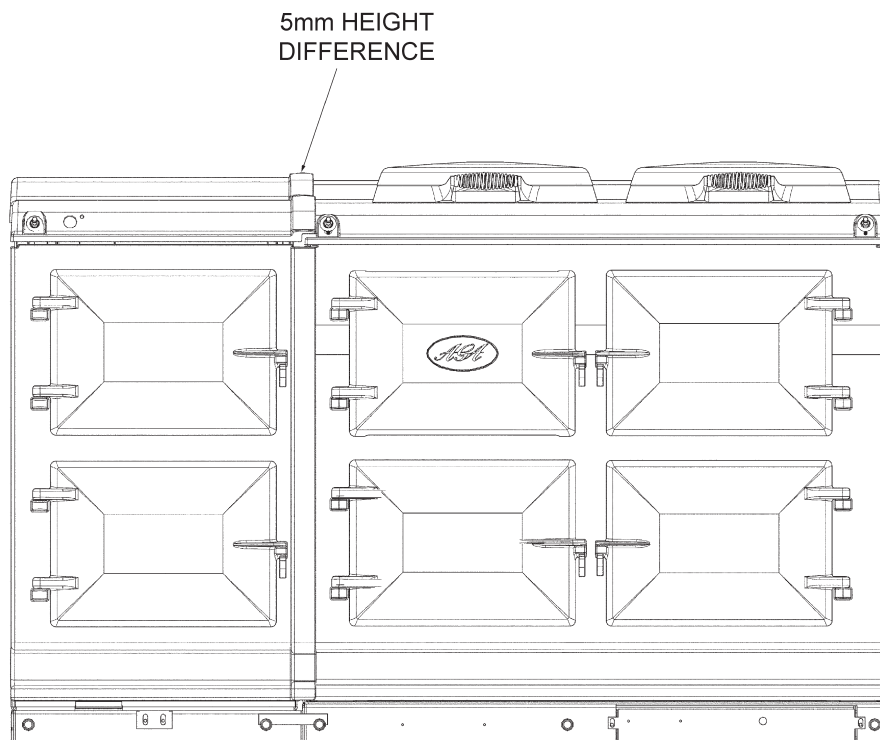

Fig. 18
7. The hotcupboard top plate is set 5mm higher than the AGA Dual Control top plate. This is to prevent damage to the enamel during installation. Lower the top plate using the adjusters (See Figs. 18 and 19).